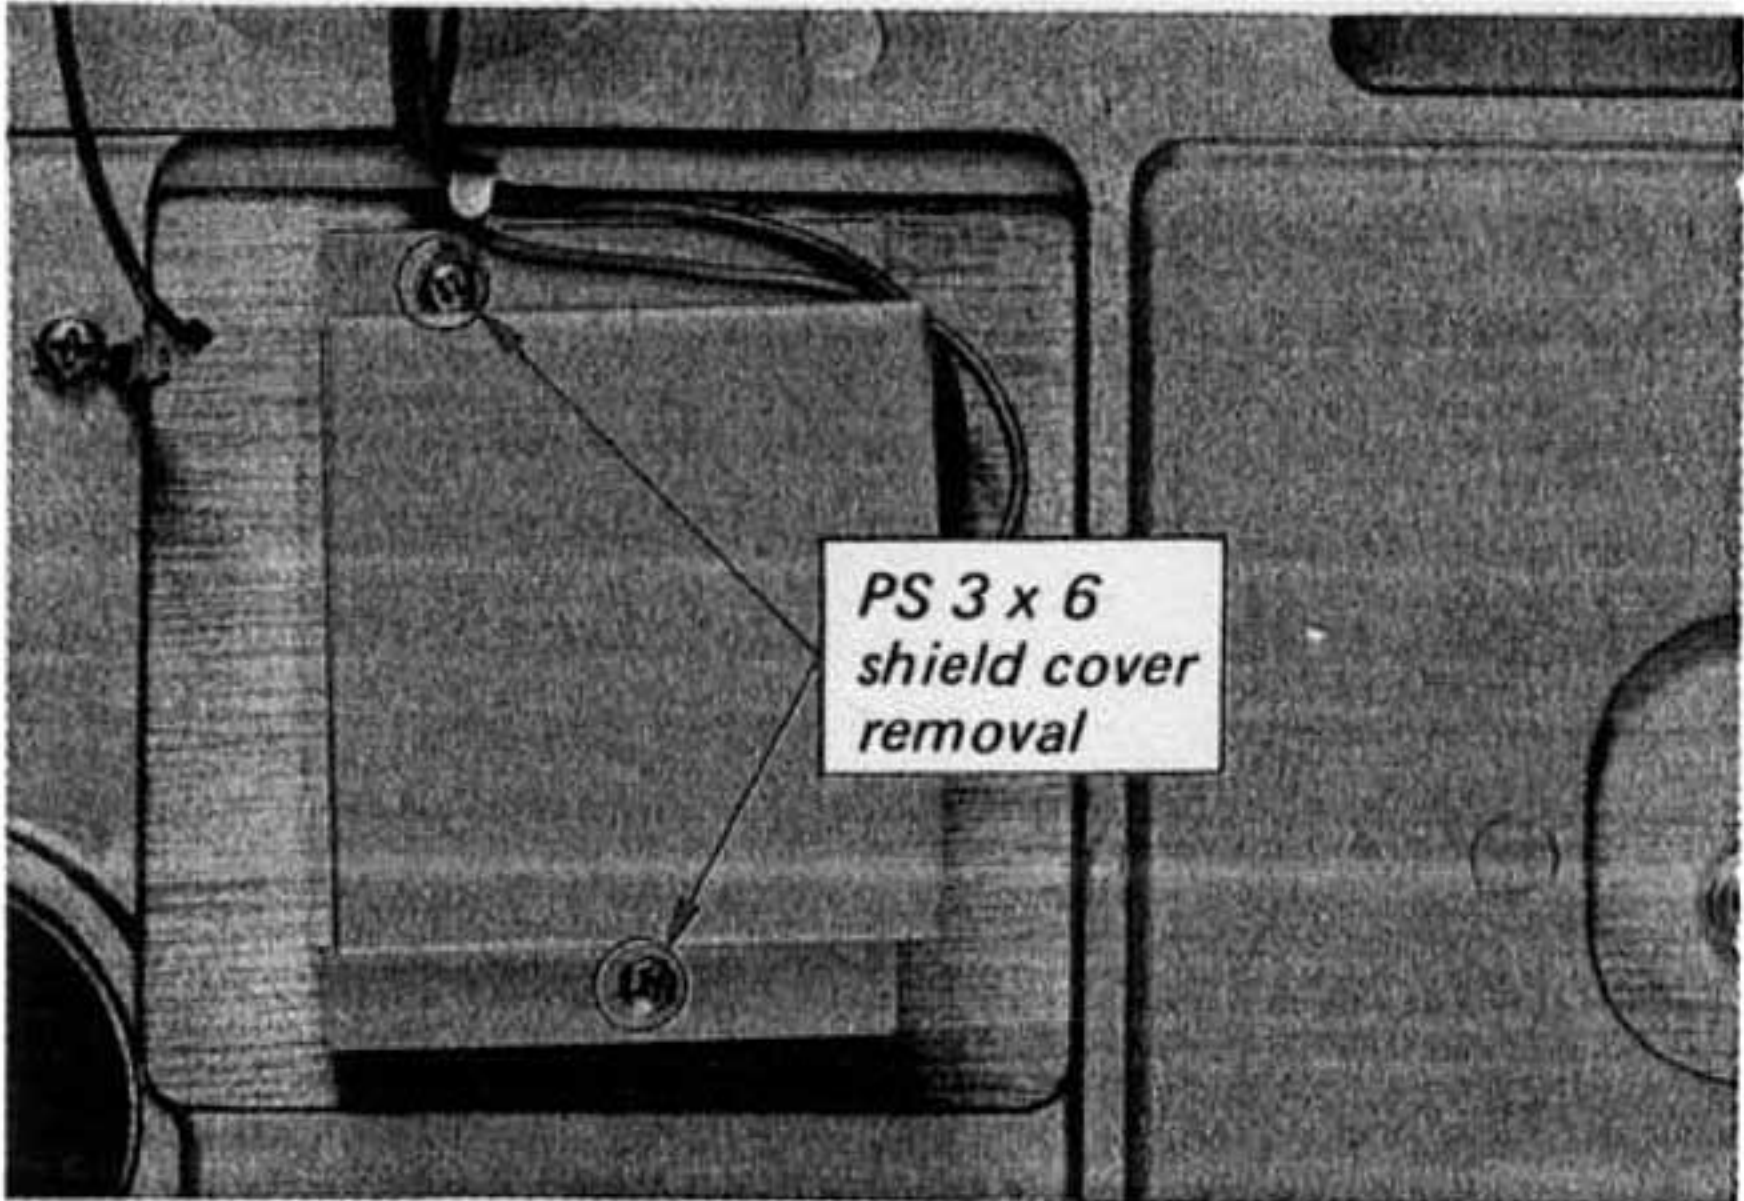

Fig. 2-12. Shield cover removal
- 3. Remove the two self-tapping screws (PS 3 x 6) securing the shield cover over the terminal strip as shown in Fig. 2-12.